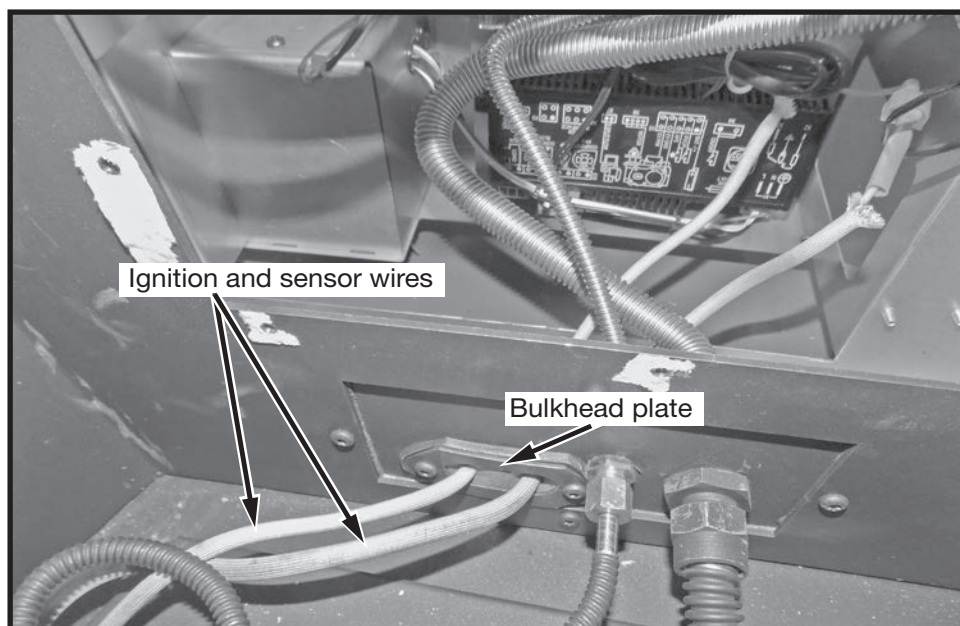

Figure 6: Ignition and sensor wires routing.
5. Feed the ignition and sensor wires through the bulkhead plate (Figure 6) to the interface module.